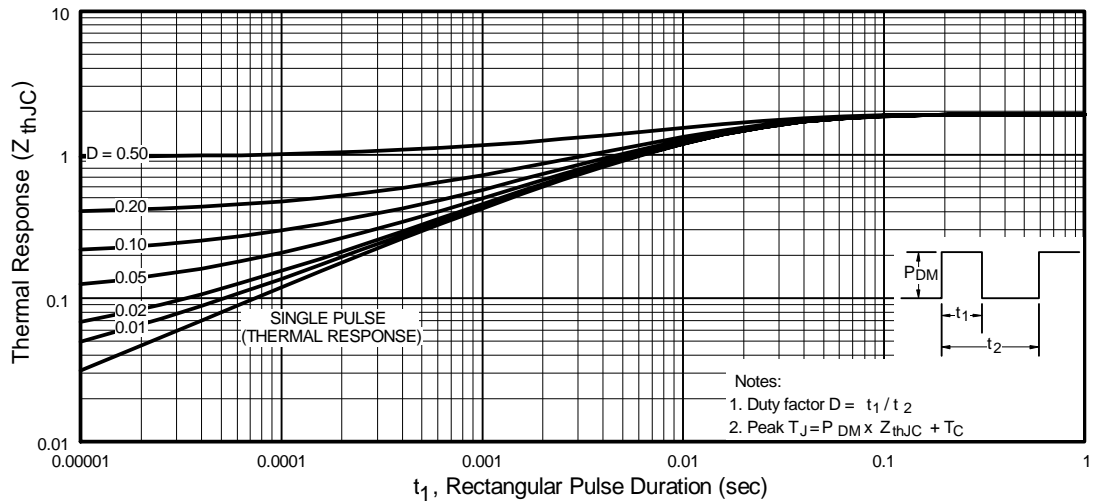

Fig 11. Maximum Effective Transient Thermal Impedance, Junction-to-Case
① Repetitive rating; pulse width limited by max. junction temperature. (See fig. 11)
② Starting T_J = 25°C, L = 6.4mH